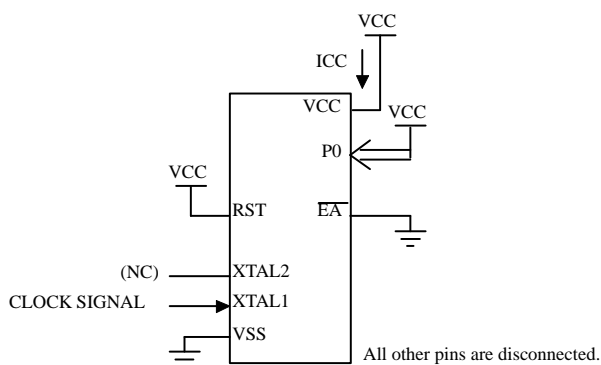
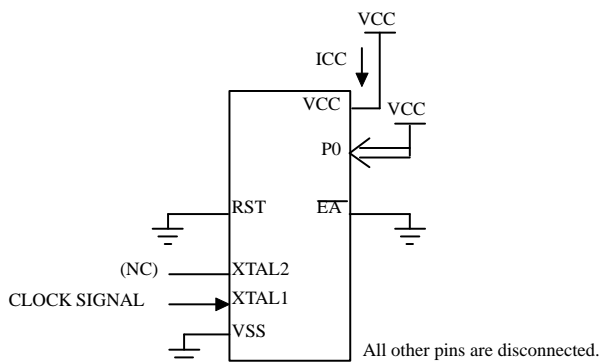

Figure 19. ICC Test Condition, Active Mode.
Figure 20. ICC Test Condition, Idle Mode.
1. ICC is measured with all output pins disconnected; XTAL1 driven with TCLCH, TCHCL = 5 ns (see Figure 20.), VIL = VSS + 0.5V, VIH = VCC – 0.5V; XTAL2 N.C.; EA = RST = Port 0 = VCC. ICC would be slightly higher if a crystal oscillator used (see Figure 19.).
2. Idle ICC is measured with all output pins disconnected; XTAL1 driven with TCLCH, TCHCL = 5ns, VIL = VSS + 0.5V, VIH = VCC–0.5V; XTAL2 N.C; Port 0 = VCC; EA = RST = VSS (see Figure 20.).